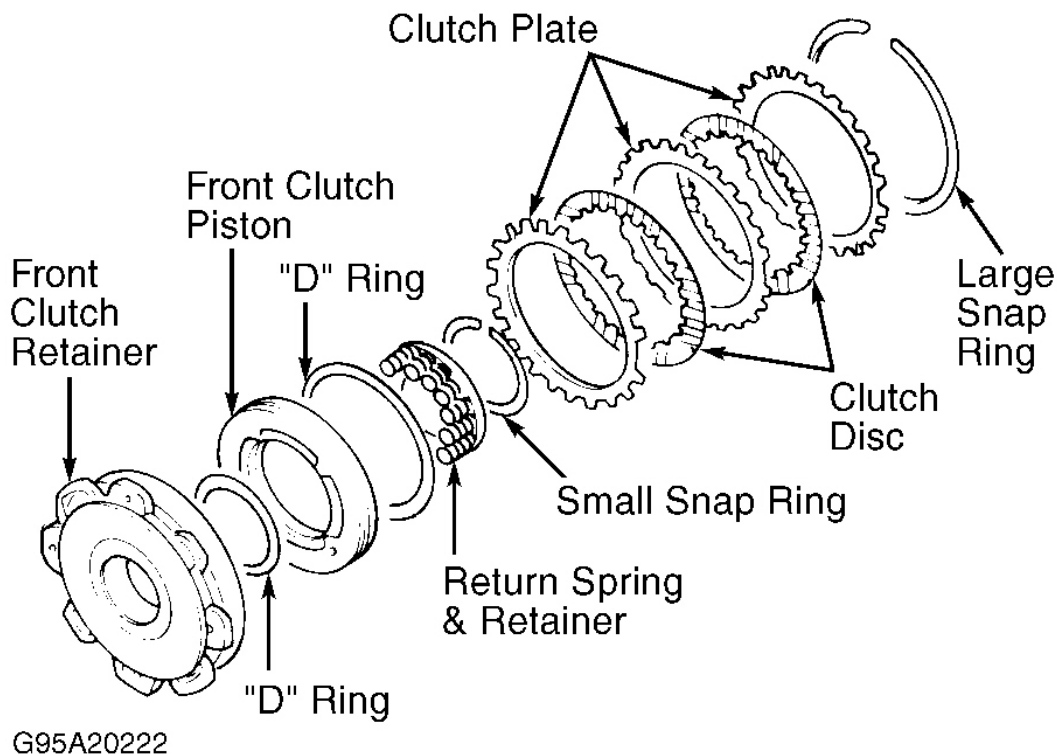

Fig. 23: Exploded View Of Typical Front Clutch
1. Remove large snap ring, clutch plates and clutch discs from front clutch retainer. See **Fig. 23** . Note direction and number of clutch plates and clutch discs installation for reassembly reference, as different models may use different number of components.